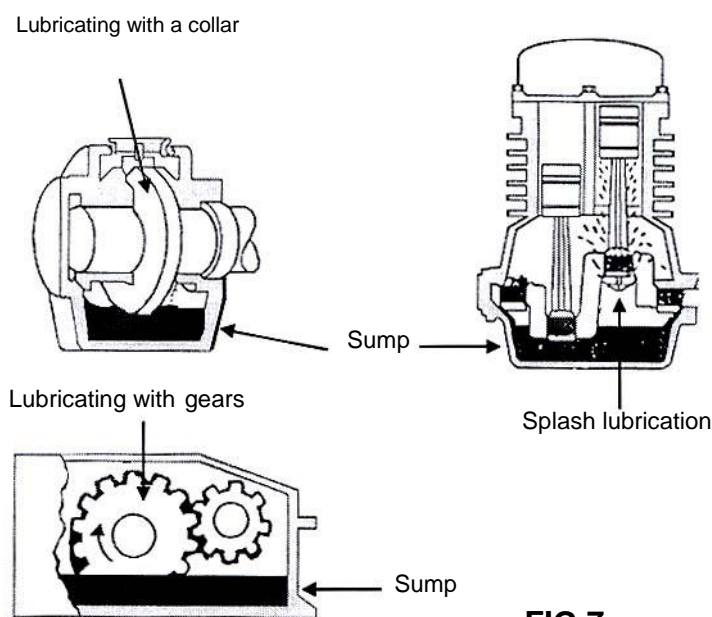

FIG 7.
- As these parts move or rotate, they transfer the lubricant to the area requiring lubrication. A few of these methods are shown in Fig 7.